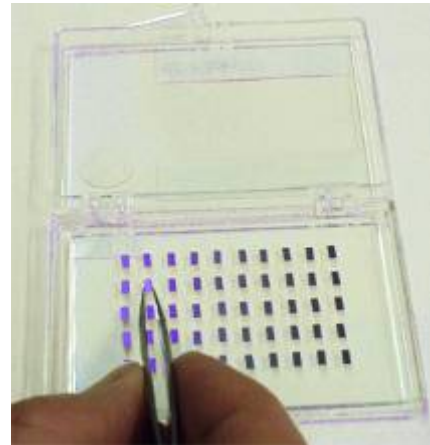

Fig. 2-28
2. Take the probe from the box with the forceps (Fig. 2-28) making sure that the working side of the chip with cantilevers is directed to you during the installation. Do not turn the chip over because probes in the box are placed with their tips pointing upwards;